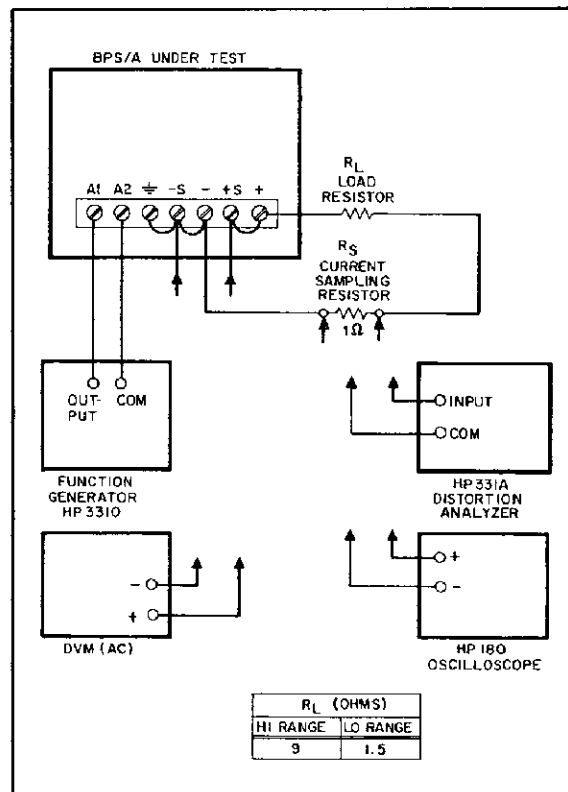

Figure 5-16. Amplifier Mode Test Setup
- a. Connect the test setup as shown in Figure 5-16. Use the appropriate low range load resistor (R_L).
- Connect the test setup as shown in Figure 5-16.